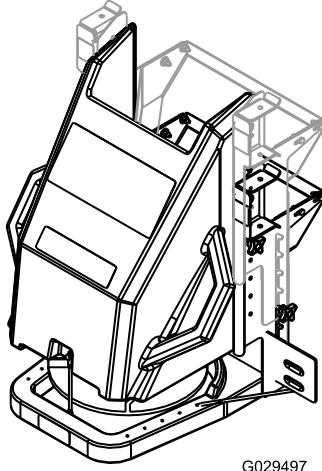

Figure 16
1. Remove the 2 upper thumbscrews (Figure 16).